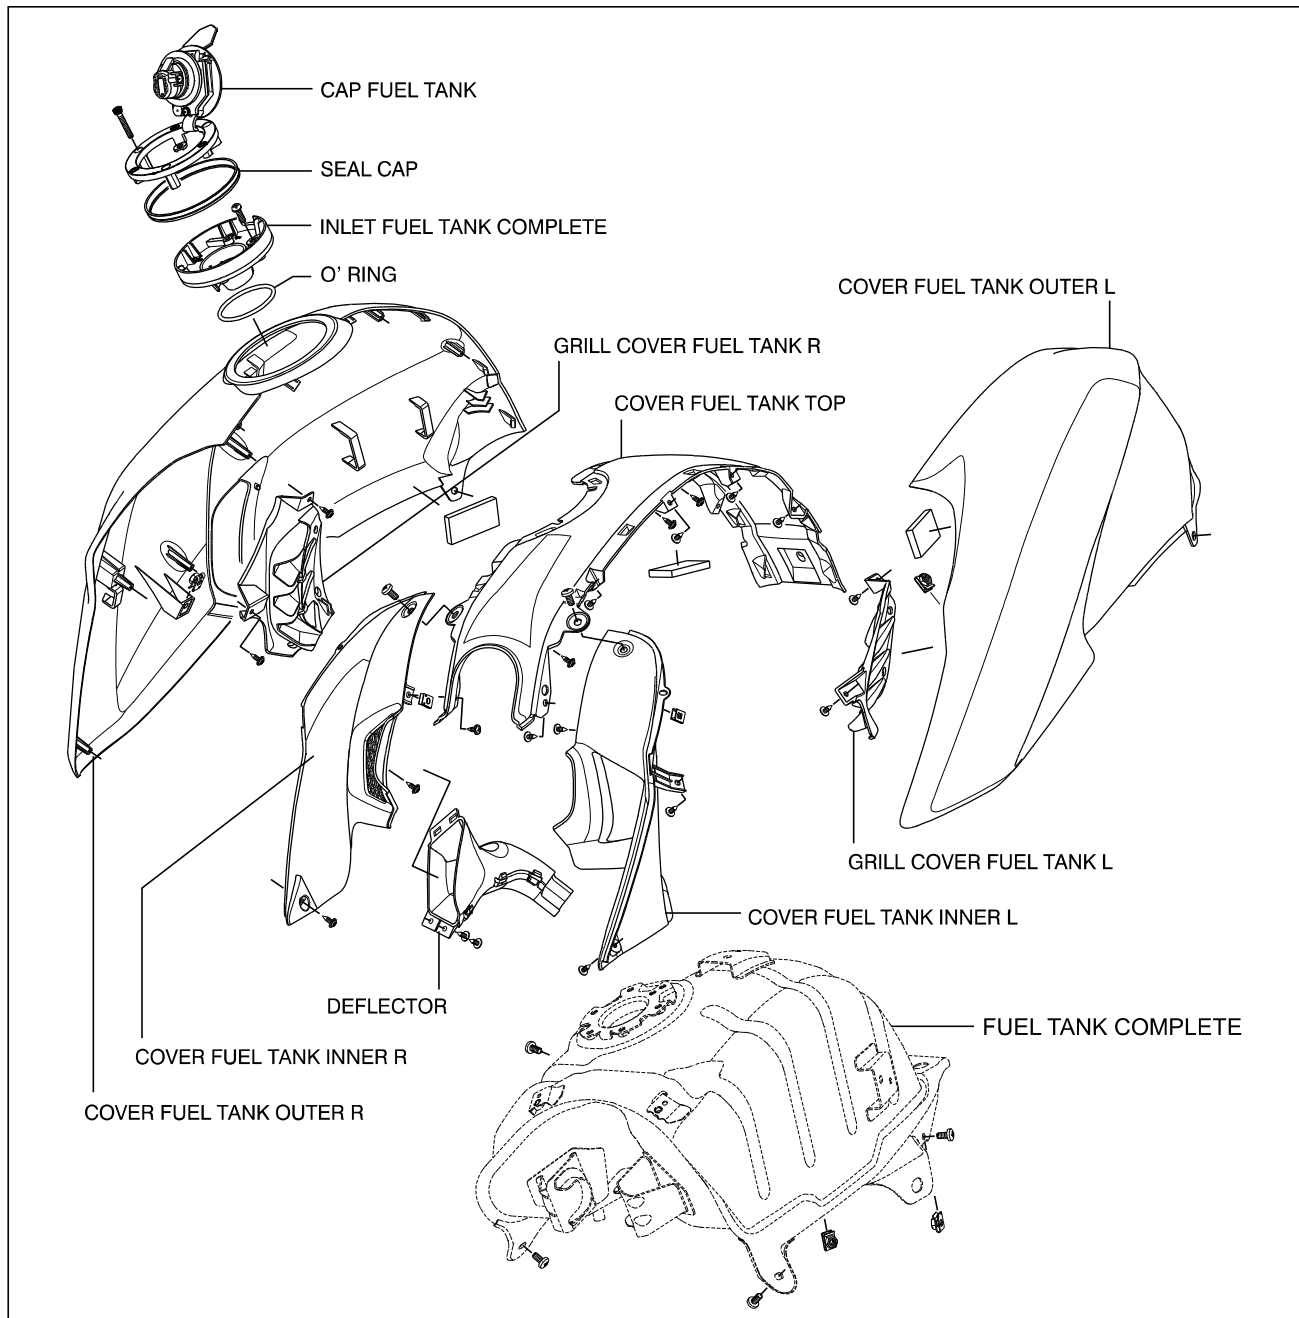

Fig. 2.24
- Refer exploded view for assembly details. (Fig. 2.24)